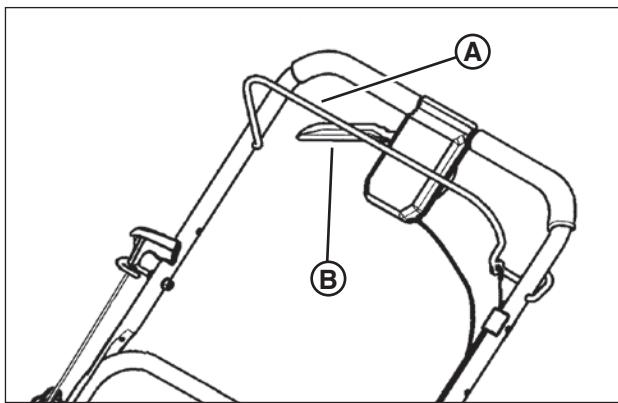

Figure 4: Mower controls
2. Check the blade control (**A**, Figure 4) and drive control (**B**) to insure they work freely.